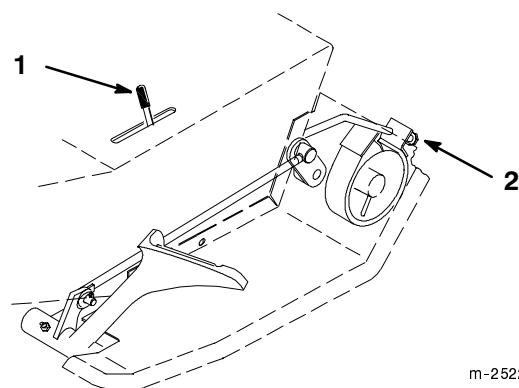

Figure 30
The brake adjustment is behind the left side cover (Fig. 30). If the parking brake does not hold securely, an adjustment is required.
3. To adjust the brake tighten adjustment nut until rear wheels skid, then tighten an additional 1/2 turn (Fig. 30).